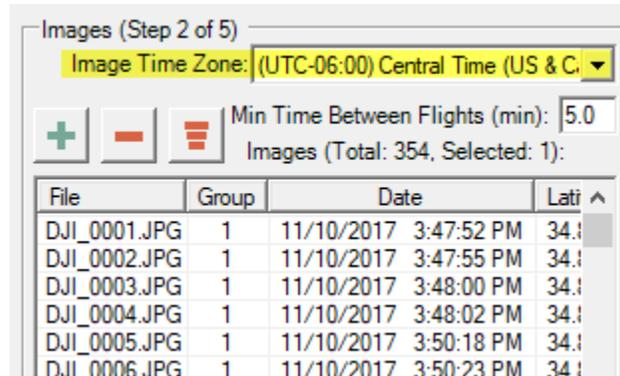

Figure 8 - Image Time Zone
20. In the Image Time Zone pull-down, select the time zone from which the images were collected (Figure 8).